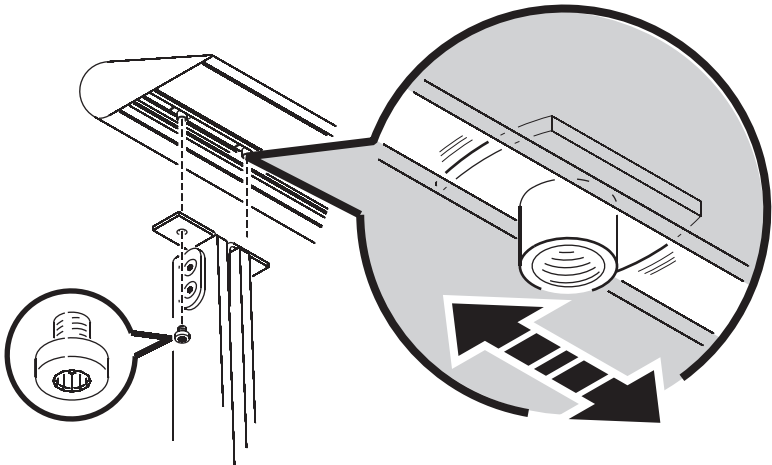

Figure 2: Mounting post and captive nuts
3. See Figure 2. Slide the captive nuts along their channels in the bottom of the profile until you can pass screws through the mounting bracket or post and into the captive nuts.